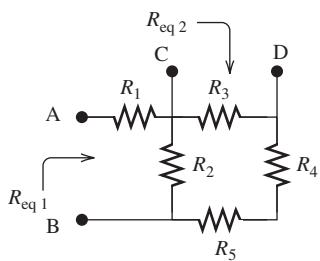

FIGURE P3.10 Circuit for Problem 3.10.
- 3.10 (H)** Find R_{AB} and R_{CD} in Figure P3.10. Let node C and D open when calculating R_{AB} and let node A and B open when calculating R_{CD} .